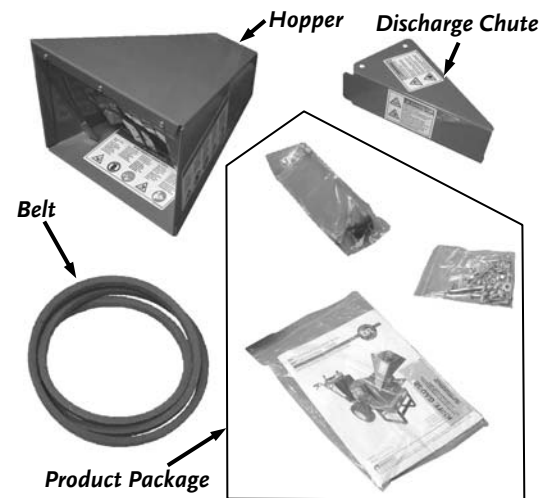

Figure 3
- Parts Box Containing: (items in list below and **Figure 3**)
| HARDWARE PACKAGE CONTENTS (FIGURE 3) | | |